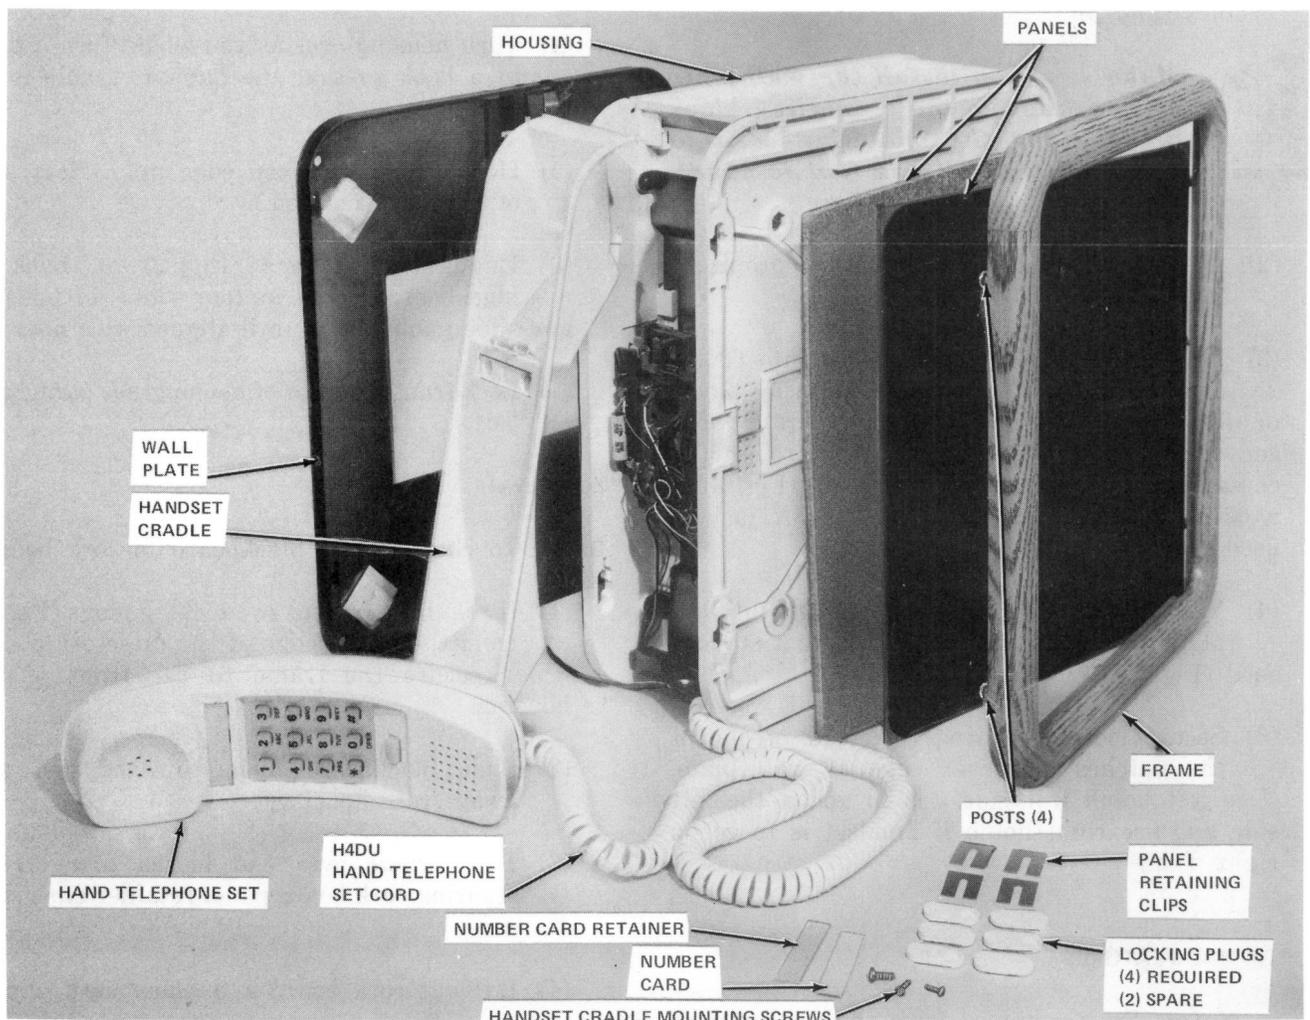
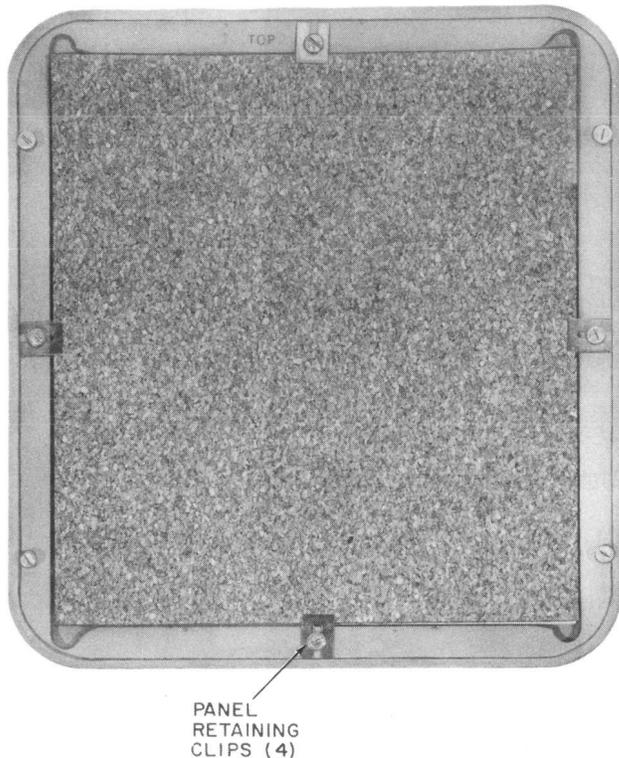

Fig. 2—950A- or 2950A-Type Telephone Set, Assembly
Fig. 4—Rear View of Frame With Panels Installed
- Revise Fig. 2
- Add Fig. 4.
2.04 The set consists of a wall plate, housing, frame, two panels (blackboard or cork board), hand telephone set, handset cord, mounting cord, and other miscellaneous parts (Fig. 2).
- (1) If required, pry out two locking plugs (Fig. 2) from the inside edge of directory pocket which secure the frame to the front of the housing.
- (2) Place housing on a table with blackboard frame on top and handset cradle on left.
- (3) Slide the blackboard frame upward and pull away from the housing.
- (4) Turn housing over as you would turn a page in a book so that the handset cradle is on the right.
- (5) Hold frame with top edge up. (Rear side of frame is marked.)
- (6) Engage four posts (Fig. 2) on back of blackboard frame in four slots on housing and slide frame down until aligned with housing.
- (7) Lock frame to front of housing, see paragraph 3.04.
- (1) If required, pry out two locking plugs (Fig. 2) from the inside edge of the directory pocket which secure the frame to the front of the housing.
- (2) Slide blackboard frame upward and pull away from housing.
- (3) Turn frame over and loosen four screws securing cork board panel retainer clips (Fig. 4).
- (4) Lift out cork board and blackboard panels.
- (5) Reverse panels.
- (6) Replace the four retainer clips and tighten four screws (Fig. 4).
(7) Hold frame with top edge up and engage four posts (Fig. 2) on back of cork board frame in four slots on housing and slide frame down until aligned with housing.
(8) Lock frame to front of housing, see paragraph 3.04.
3.04 Lock blackboard or cork board panel and frame to front of housing by inserting two locking plugs (Fig. 2) in holes on the inside edge of directory pocket.
3.07 Lock housing to wall plate by inserting two locking plugs (Fig. 2) in holes on inside edge of directory pocket.